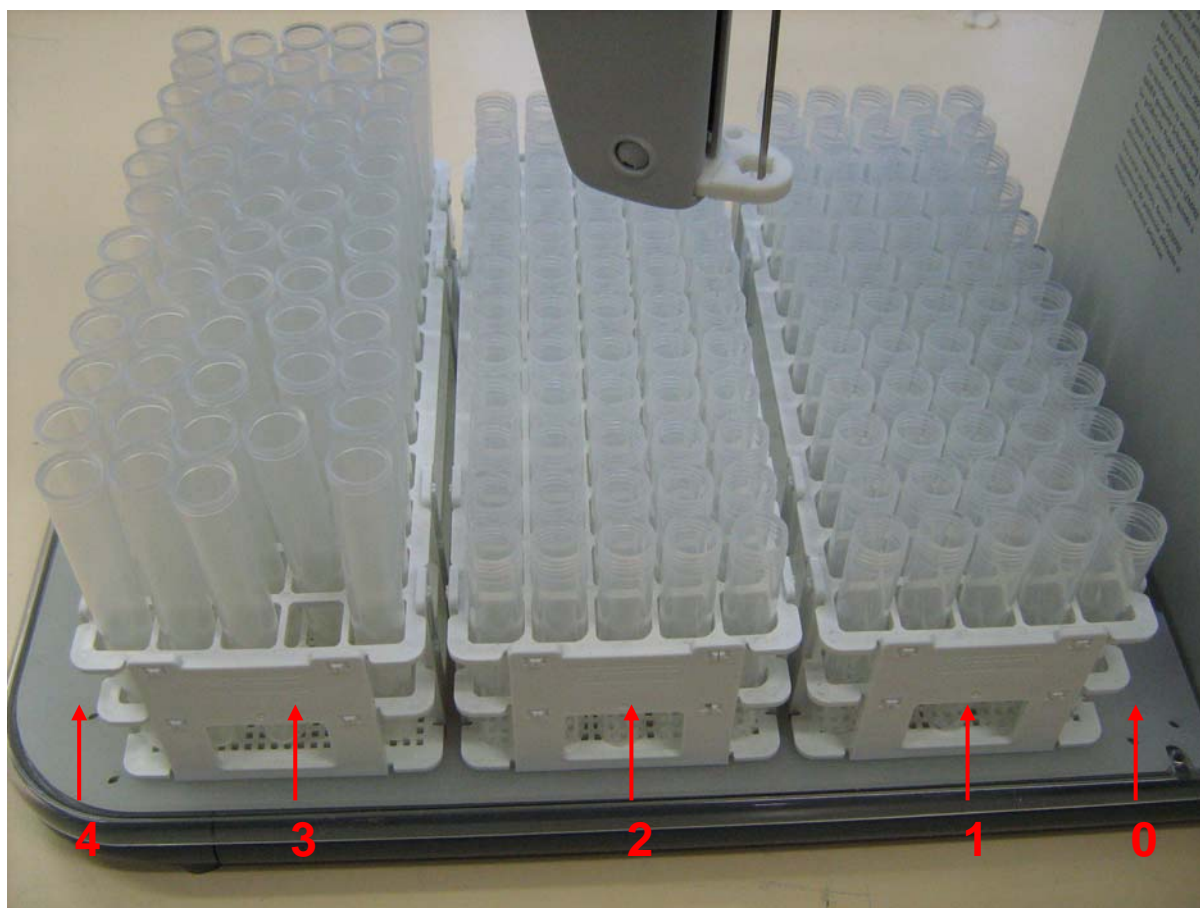

Figure 39. Rack Positions on the Fraction Collector
14. The different rack positions are shown in Figure 39